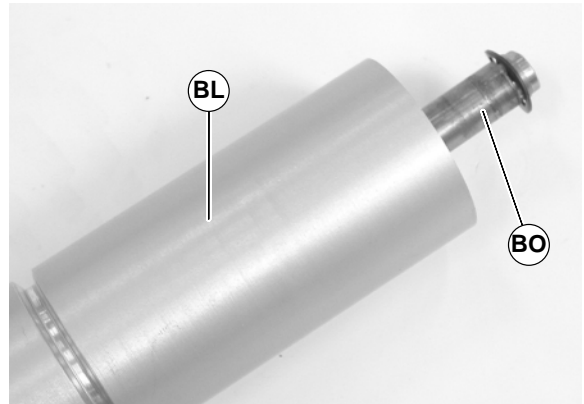

Figure 57
- Slide the shaft assembly (BO of Figure 57) out of the pulley (BL).
6. Slide the shaft assembly (BO of Figure 57) out of the pulley (CK).